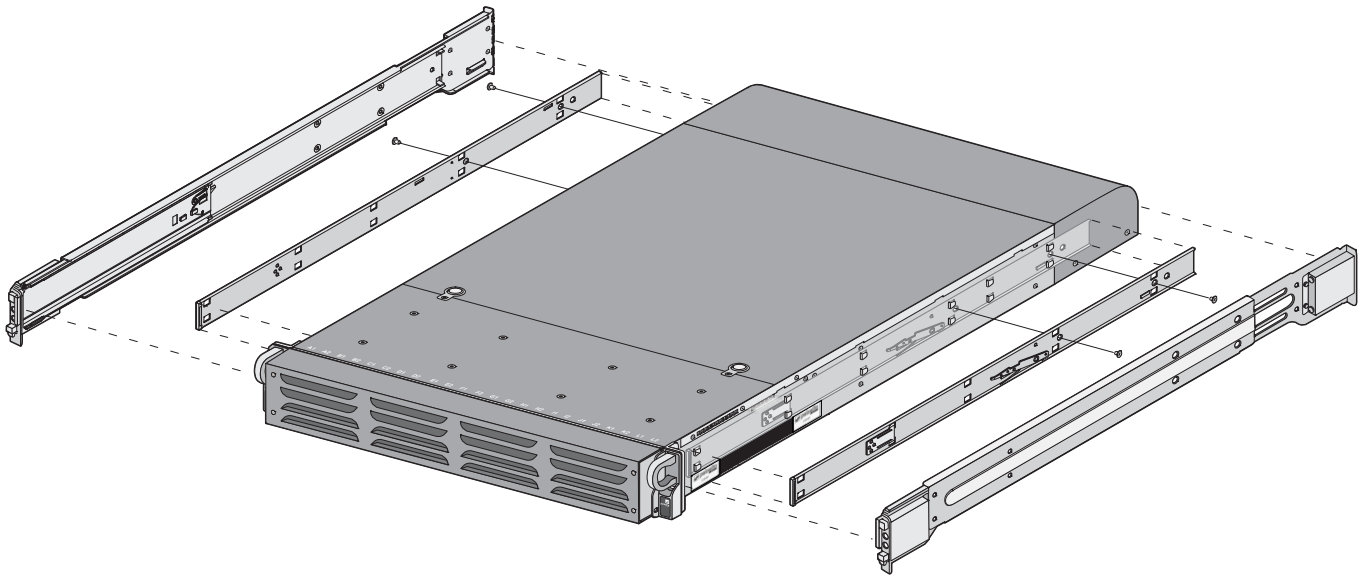

Figure 47 – M-500: Install Rail Kit
Re-attach the rail kit to the appliance as shown in Figure 47 and then add three (3) tamper seals to the bottom of the appliance as shown in Figure 48. One (1) tamper seal prevents tampering of the front opacity shield connected to the bottom of the appliance and two (2) tamper seals wrap around the upper and lower rear opacity shields to prevent tampering of the rear opacity shields.